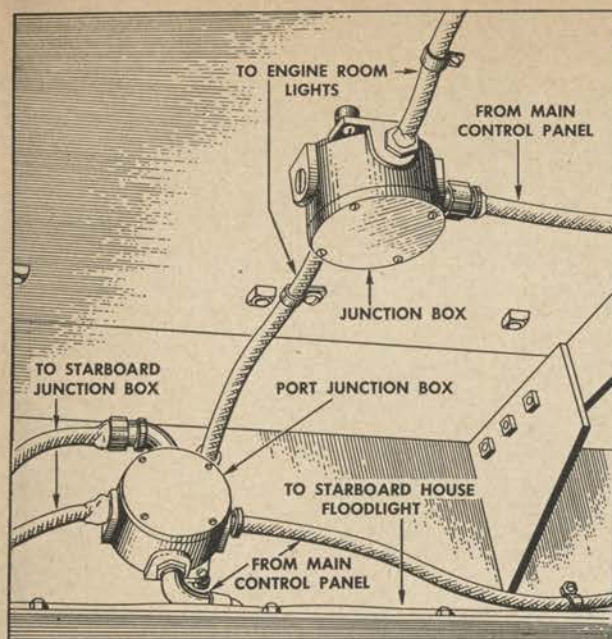

Figure 47. Junction boxes, forward roof section, starboard side.
(4) *Deck house floodlights.* Connect the starboard floodlights on top of the deck house roof to the main control panel by means of the cable clamped to the portable ridge girders. (See fig. 47.) The port deck house floodlight is already wired correctly and needs no connecting.
(5) *Galley circuit.* The cable supplying current for the galley and accessories is connected through two junction boxes. Connect the two cables from the main generator control panel to the port junction box on the portable ridge beam. (See fig. 47.) Thread the two cables from the deck house starboard section through the portable ridge beam and connect them to the junction box on the starboard end of the ridge beam.